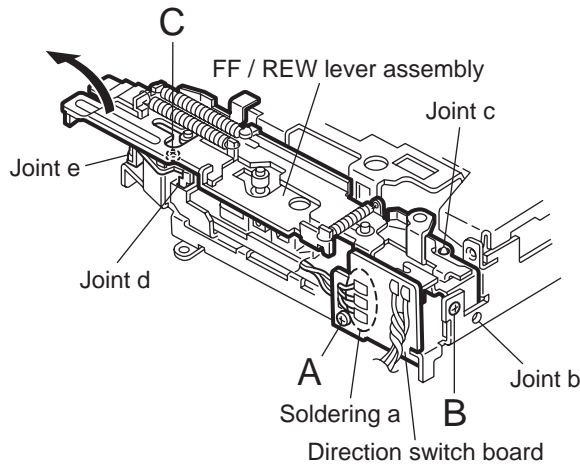

Fig.1
3.2.1 Removing the direction switch board (See Fig.1)
- (1) Unsolder the three wires **a** on the direction switch board.
- (2) Remove the one screw **A** attaching the direction switch board.
3.2.2 Removing the FF / REW lever assembly (See Fig.1)
3.2.3 Reattaching the FF / REW lever assembly (See Fig.1)